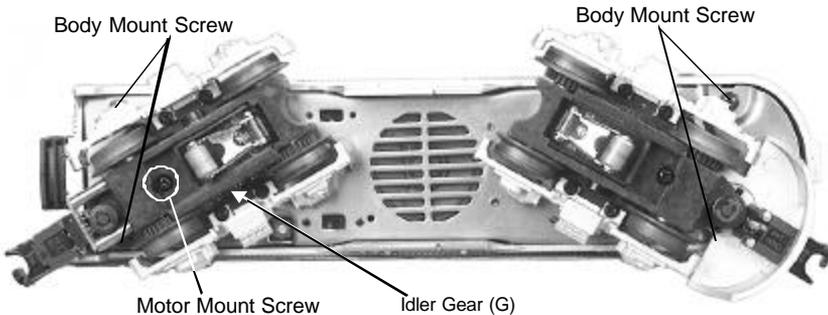

Figure 6. Body Mount Screws and Greasing Points.
1. Remove the four Phillips screws from the chassis, as seen in Figure 6, then lift the body away from the chassis.
2. Remove the truck blocks from the chassis by unscrewing the large Phillips motor mount screw on the bottom of each truck block, as shown in Figure 6.
It is also a good idea to lubricate the outside truck block idler and drive gears with grease occasionally. Add grease to the points marked with "G" in Figure 6.